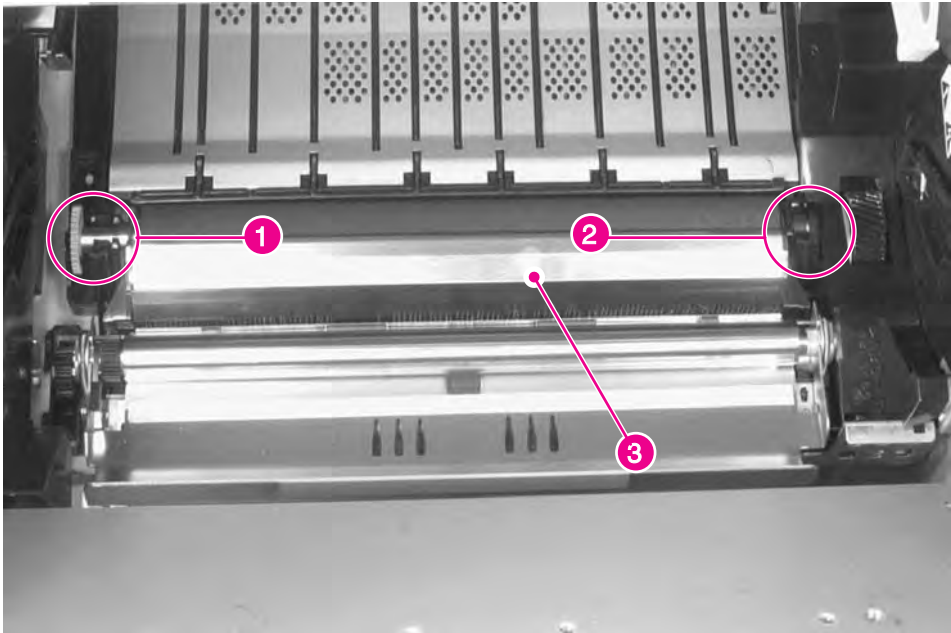

Figure 6-60 Transfer Roller Assembly
- 2 Remove the Transfer Roller Assembly (see figure 6-60 on page 228).
- Transfer Roller (see figure 6-60 on page 228)
- 2 Grasp the gear (figure 6-60, callout 1) on the left end, and carefully lift upward just enough to clear the retainer clip.
- 3 Slide the Transfer Roller Assembly to the left to release the shaft on the right end (figure 6-60, callout 2).
- 2** Hold the Transfer Roller wiper up (figure 6-60, callout 3) and slide the assembly to the right until the gear on the left end is in position.
- 4** Press the Transfer Roller wiper down (figure 6-60, callout 3) until the retaining clips snap into place.